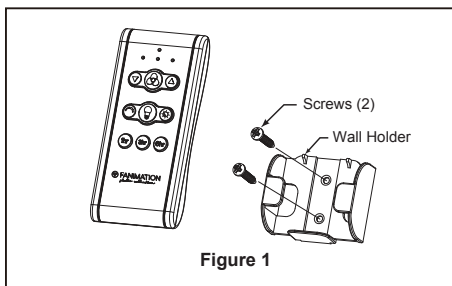

Figure 1
- ☐ 1. To set the code on receiver unit, slide dip switches to the same positions as set on the remote. (Figure 1)
- ☐ 1. Assemble canopy by rotating key slot in canopy over shoulder screw in hanger bracket, taking care not to pinch the wires. Tighten shoulder screw. Fully assemble and tighten second shoulder screw that was previously removed. (Figure 1)
- ☐ 1. Remove one of the three screws in the support bracket at the bottom of the motor assembly and retain the screw for later and slightly loosen the remaining two screws. (Figure 1)
- ☐ 1. **IMPORTANT:** Using a full range dimmer switch (not included) to control fan speed will damage the fan. To reduce the risk of fire or electrical shock, do not use a full range dimmer switch to control the fan speed. (Figure 1)
☐ 1. Installing Wall Holder: (Figure 1)